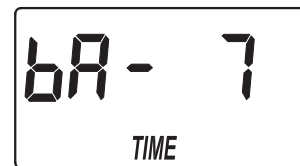

FIG. 27
2. Press the SELECT button twice, so that "bA TIME" appears in the display (See Figure 27).